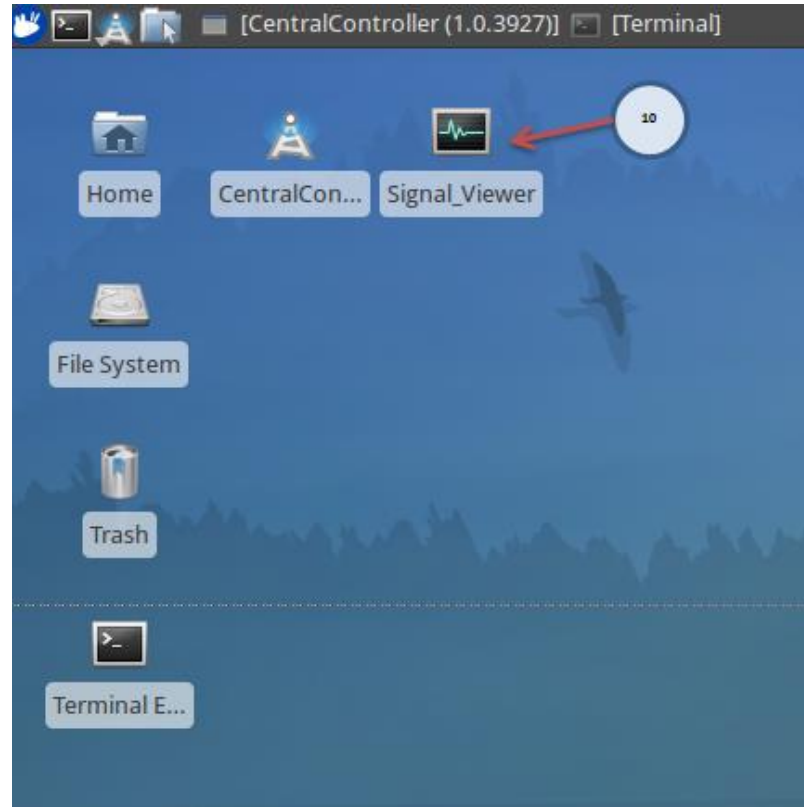
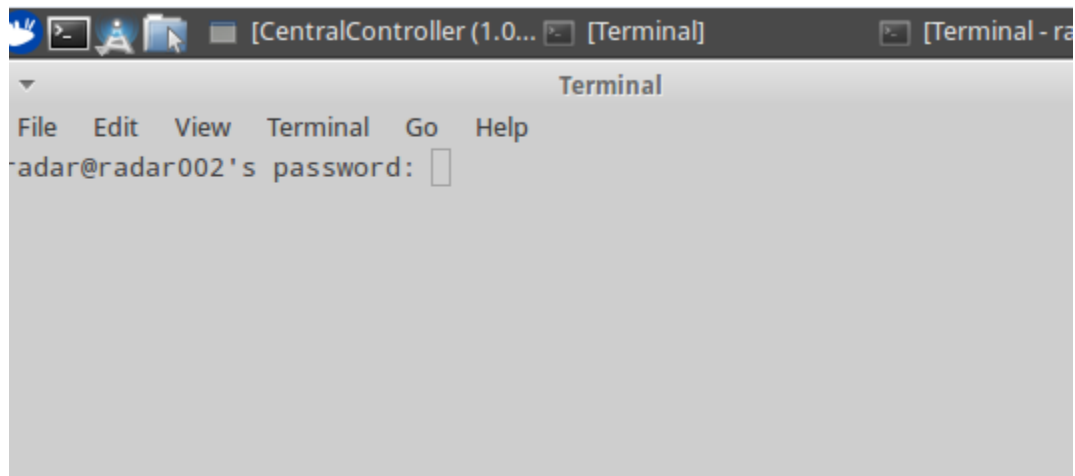

Figure 12a. Clicking the Signal_Viewer icon starts the Signal Viewer.
Figure 12b. Log-in terminal for the Signal Viewer.
11. Optional Signal Viewer Application. Once the Radar Processor application has launched, it is possible to view the microwave pulse waveforms from the Radar. This is done by double-clicking the “*Signal_Viewer*” icon on the Central Controller desktop screen as indicated by Icon 10 in Figure 12a and entering the password *radar* in the pop-up terminal as shown in Figure 12b.